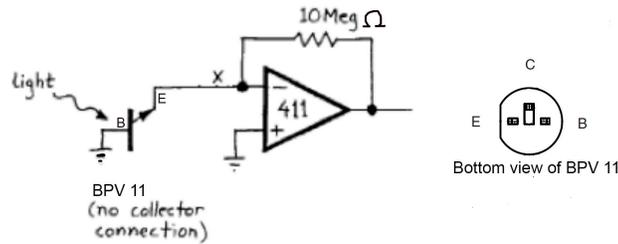

Figure 4.5: Photodiode photometer circuit.
Use a BPV 11 phototransistor as a photodiode in the circuit in Figure 4.5; the lead with the arrow is the emitter (E) and the lead that is grounded is the base (B). Here, light is converted directly into an electrical current and thus the photodiode serves as a source of current. Why does the above configuration of the op-amp approximate an ideal ammeter (**1 pt**)?